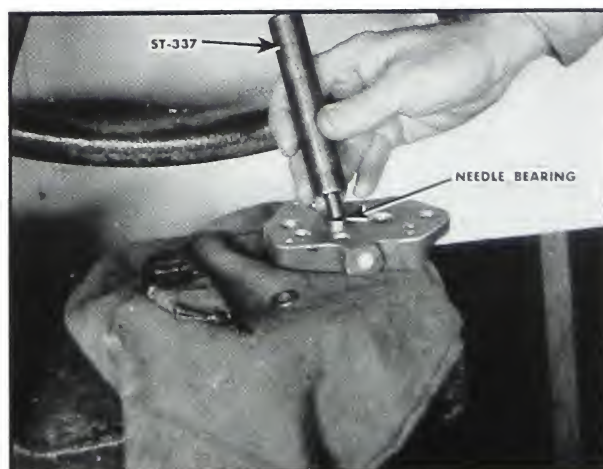

Fig. 5-288. Press in new gear pump needle bearing
2. Replace needle bearings as needed by pressing in with ST-337 mandrel. Use .015 spacer on ST-337 mandrel to provide space for seals. Fig. 5-288.